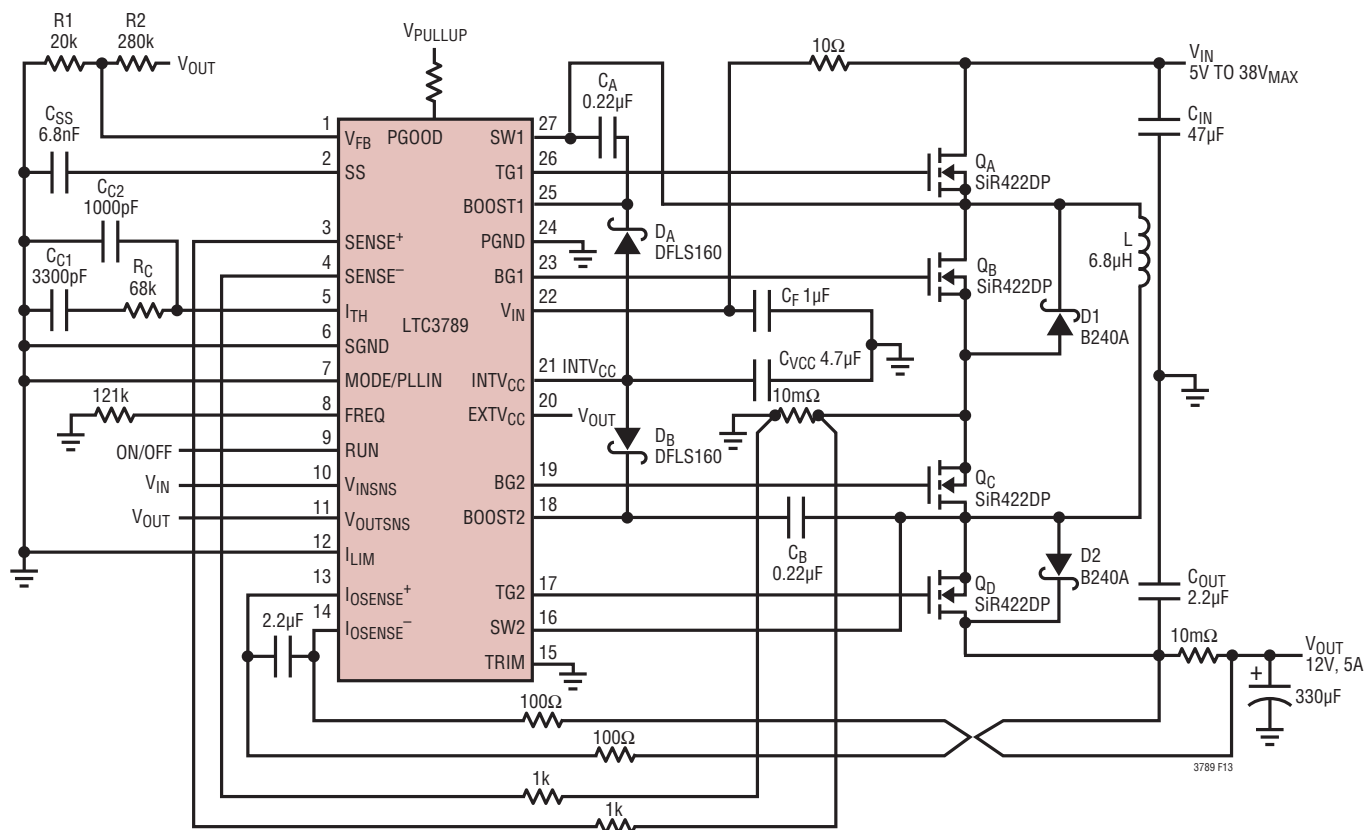

Figure 13. LTC3789 12V/5A, Buck-Boost Regulator
Referring to Figure 13, the external bootstrap capacitors C_A and C_B connected to the BOOST1 and BOOST2 pins supply the gate drive voltage for the topside MOSFET switches A and D. When the top switch A turns on, the switch node SW1 rises to V_{IN} and the BOOST1 pin rises to approximately $V_{IN} + INTV_{CC}$. When the bottom switch B turns on, the switch node SW1 drops to low and the boost capacitor C_A is charged through D_A from $INTV_{CC}$. When the top switch D turns on, the switch node SW2 rises to V_{OUT} and the BOOST2 pin rises to approximately $V_{OUT} + INTV_{CC}$. When the bottom switch C turns on, the switch node SW2 drops to low and the boost capacitor C_B is charged through D_B from $INTV_{CC}$. The boost capacitors C_A and C_B need to store about 100 times the gate charge required by the top switches A and D. In most applications, a $0.1\mu\text{F}$ to $0.47\mu\text{F}$, X5R or X7R dielectric capacitor is adequate.
- Flood all unused areas on all layers with copper. Flooding with copper will reduce the temperature rise of power components. Connect the copper areas to any DC net (V_{IN} or GND). When laying out the printed circuit board, the following checklist should be used to ensure proper operation of the LTC3789. These items are also illustrated in Figure 13.